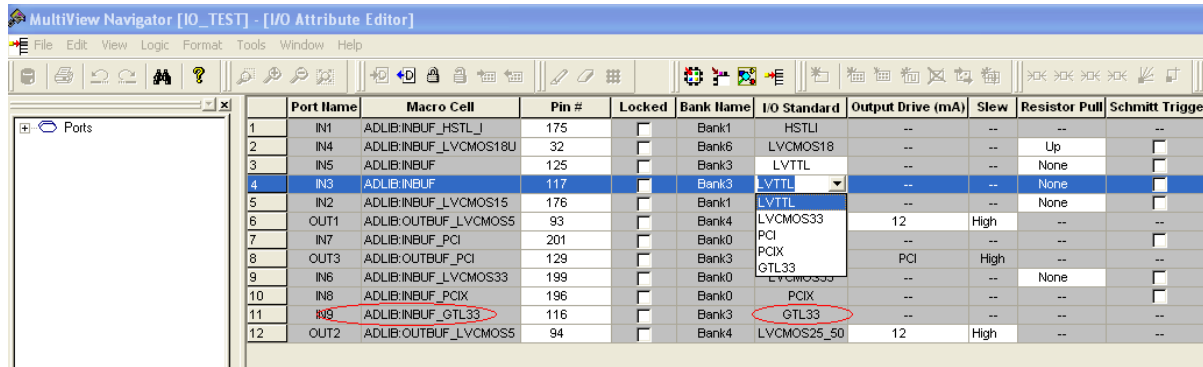

Figure 10-6 • Assigning a Different I/O Standard to the Generic I/O Macro
- Users will need to use the I/O Attribute Editor in Designer to change the default I/O standard if needed (see Figure 10-6 on page 269).
- The I/O standard of technology-specific I/O macros cannot be changed in the I/O Attribute Editor (see Figure 10-6).